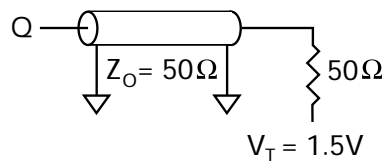
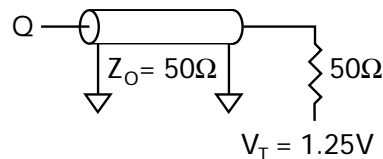

Figure 1
Figure 3
1. Test conditions as specified with the output loading shown in Figure 1 for +3.3V I/O ($V_{DDQ} = +3.3V \pm 0.165V$) and Figure 3 for 2.5V I/O ($V_{DDQ} = +2.5V \pm 0.125V$) unless otherwise noted.
Output load	See Figures 1 and 2
Output load	See Figures 3 and 4